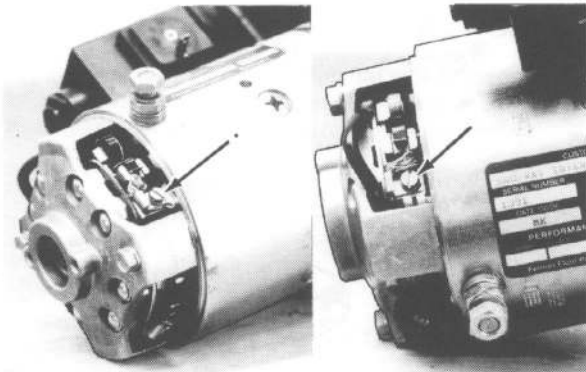

Figure 2-2
3. Make note of the terminal position and placement and remove terminal screws. See Figure 2-2.